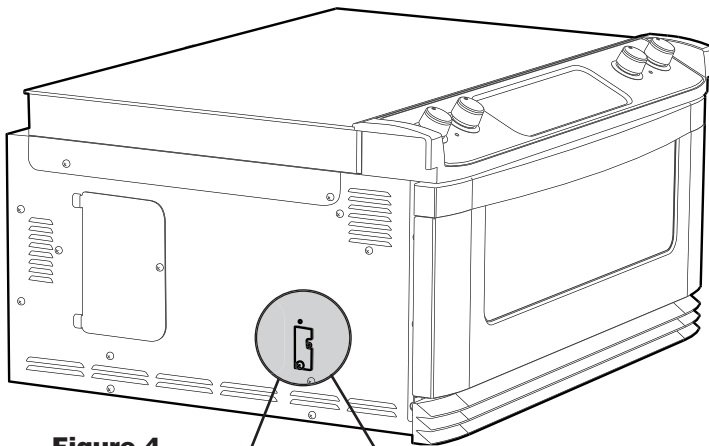

Figure 4
- 1 Locate the voltage switch on the left side of the appliance (facing the front). See Figure 4.